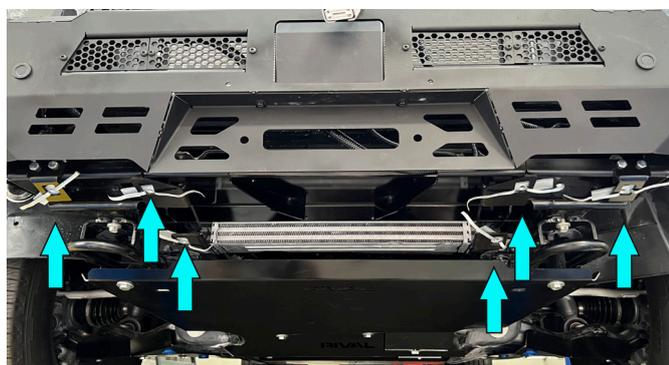

Fig.57
56. Install insert nuts M10 with cable (item S) into holes of brackets (item 22, 23, 24, 25) as shown in fig.57.